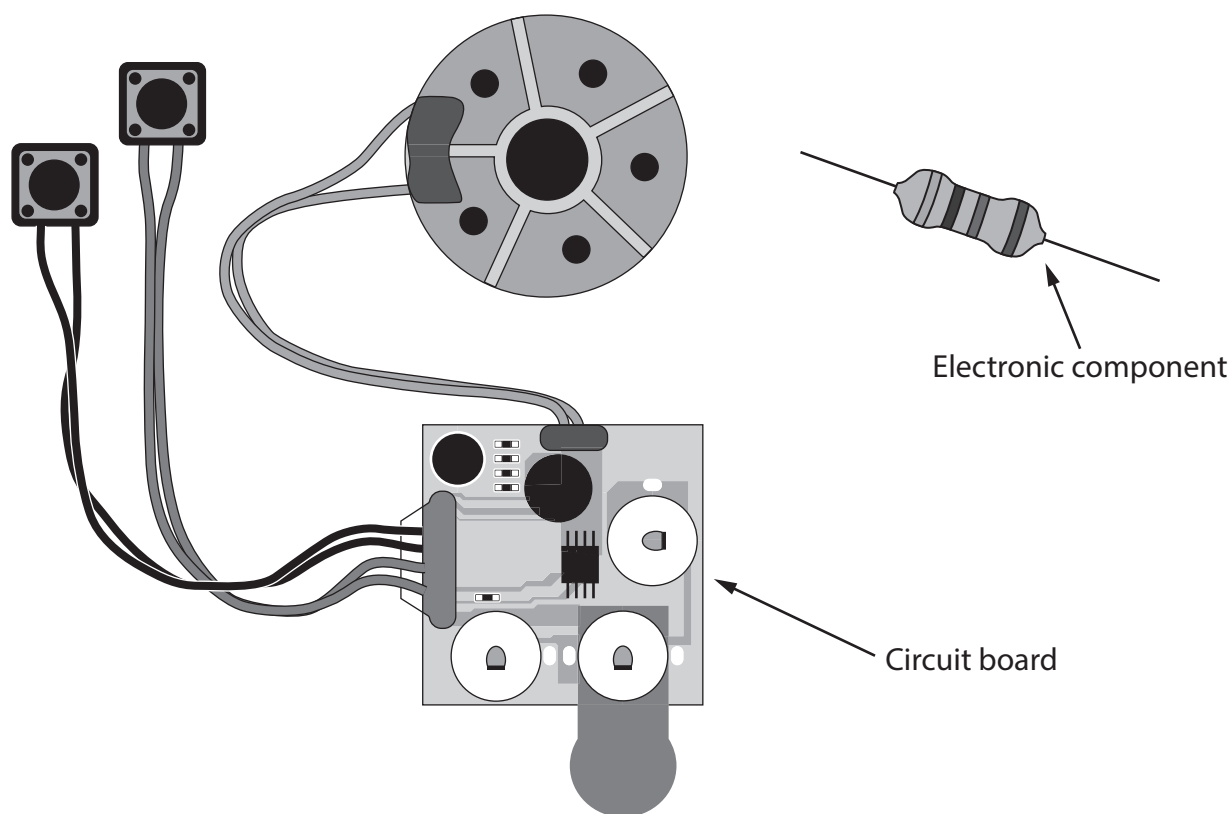

Figure 3
- 3 Figure 3 shows an electronic circuit for a voice recorder and a specific electronic component used in the circuit.
- (a) Name the specific type of electronic component shown in Figure 3.